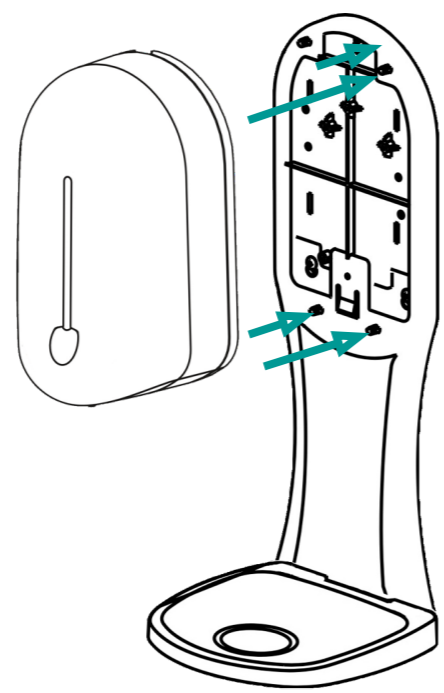

FIG. 2
Step 2 Align the 4 holes in the back of dispenser unit with the 4 hooks on the backsplash. Push the unit against the backsplash and then push the unit down towards the drip tray until the top of the unit is flush with the top of backsplash guard (FIG. 2, 3).